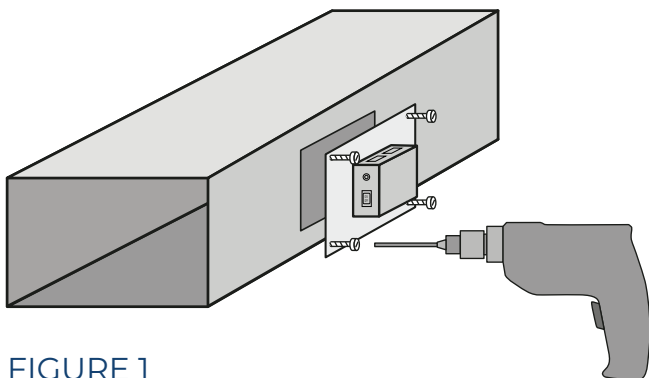

FIGURE 1
2. To mount the unit in a duct (See Figure 1):
- c. Screw the DM-6000 through the mounting holes into the duct using sheet metal screws (See Figure 1).